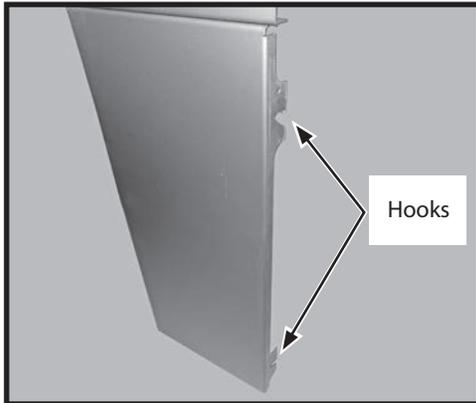

Fig. 5: Inner panel with mounting hooks.
5. Once the two surrounds are joined together, mount the surrounds onto the stove by mating the hooks (Fig. 5) built in to the inner sides of the regular surround to the mounting posts on the stove (Fig. 6).